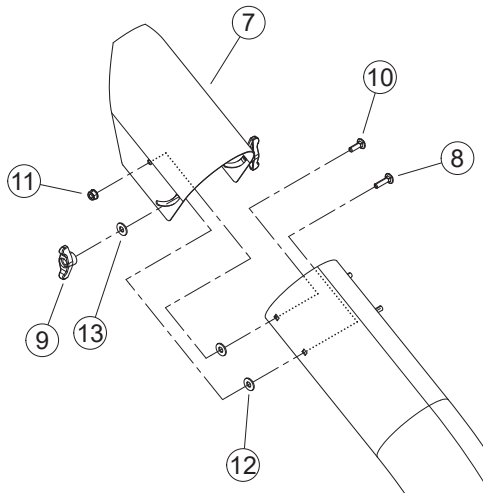

Figure 2.4, Attach Discharge Deflector
1. Attach the discharge deflector (7) to the discharge tube. Connect the deflector with two 5/16 × 1-1/4" bolts (8) through the lower holes in the discharge tube. Run these bolts through the inside of the tube, 3/8" washer (12), deflector, 5/16" washer (13), and then knob (9).
2. Finish bolting the deflector to the tube with two 5/16 × 1" bolts (10) through the end holes in the discharge tube and secure with 5/16" washers and nylock nuts (11). (See Figure 2.4)